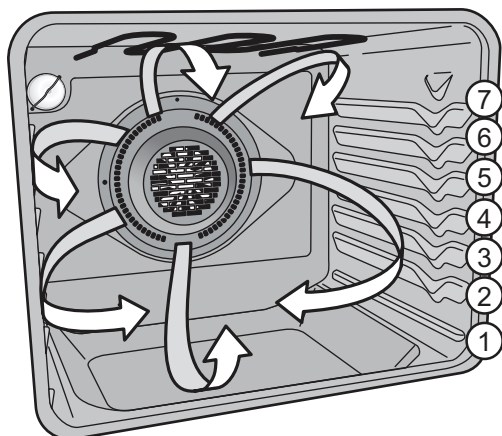

Figure 3: Air movement using convection
- For best results when using a single oven rack, place rack in position 3 or 4 (See Figure 3). When using two oven racks, place in positions 2 and 6.